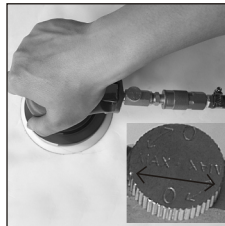

Figure 4
6. Turn the knob in “MAX” position, hold the tool by one hand and slowly press down on the trigger by your palm to the utmost. Then the tool starts to work. (See Figure 4)